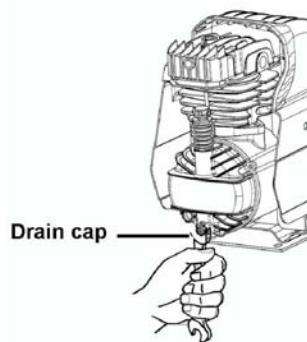

Fig.10
(1) Within the first 50 hours of operation, completely replace the oil of the pumping element. Unfasten the oil drain cap on the casing cover, drain all the oil, and screw the cap back on (Refer to Fig.1 and to Fig.10).